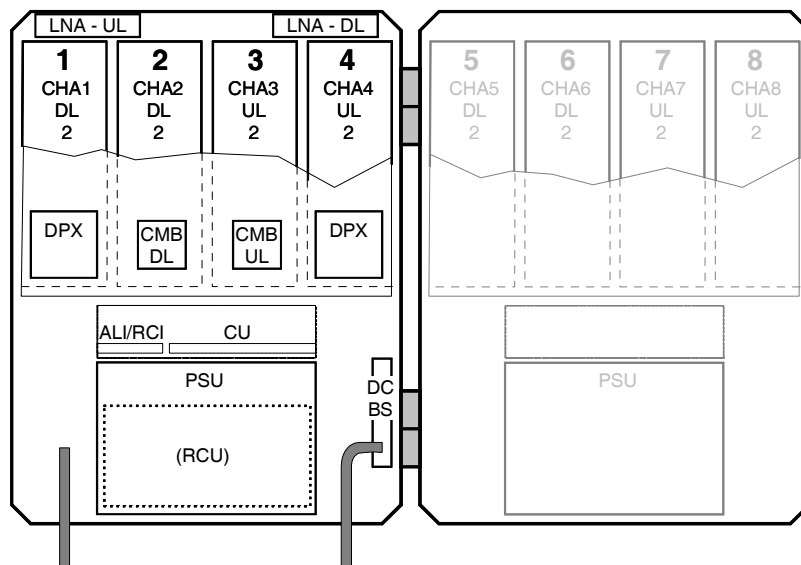

Figure 1-3 CSeI GSM Repeater Sub Unit Locations
A cabinet for a CSeI GSM repeater can be equipped with four CHEs, two for the downlink (DL) with two internal channels each and two for the uplink (UL) with two internal channels each. The described cabinet has a capacity of four bi-directional GSM channels. A high cover can be equipped as well providing up to eight GSM channels. PCBA positions are illustrated in Figure 1-3 and a block diagram is located in Appendix A.